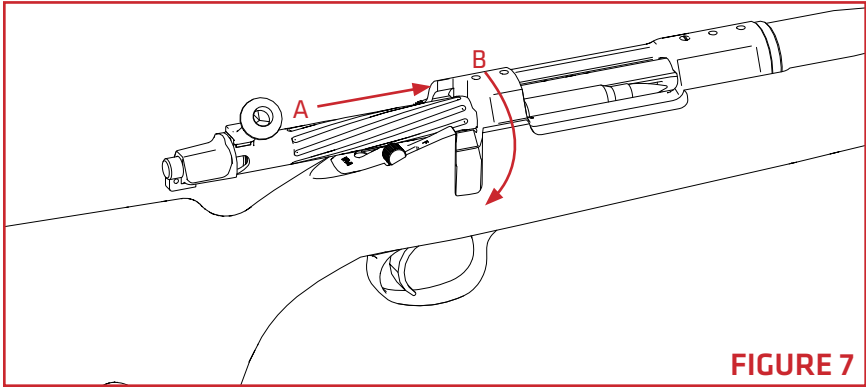

FIGURE 7
4. Push the bolt handle forward (**FIGURE 7-A**), then down (**FIGURE 7-B**) to feed a cartridge from the magazine and lock the cartridge into the chamber.